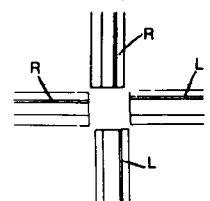

FIG. 12
2. Lay out the track per the layout of the HOUSINGS following the track orientation shown in Fig. 12. Note that each straight run of track consists of an INDIVIDUAL plus JOINERS.